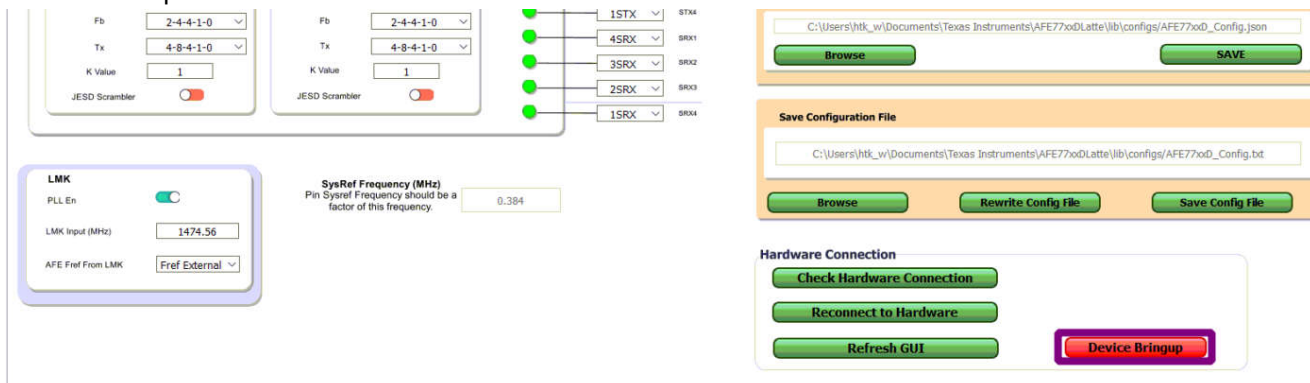

Figure 4-12. Device Bringup, AFE77xxD-Params
18. On the AFE77xxD GUI, the “Device Bringup” button at the bottom of the AFE77xxD-Params page should be clicked to start the configuration of the LMK04828 and AFE7769D chips. Figure 4-12 shows how to navigate to the respective button.